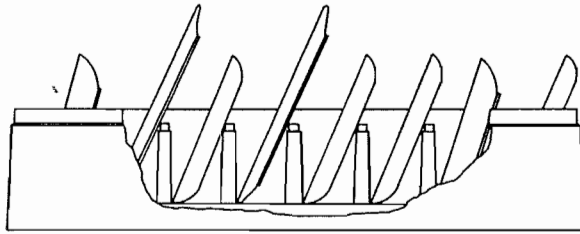

Fig. 5
C.2.1.1 Stand plates and flat dishes up edge-wise, in mixed dish rack (Fig. 5).